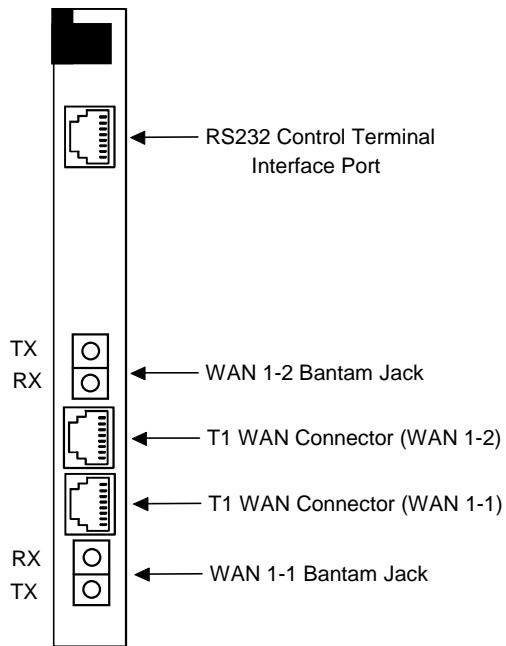

Figure 5-4. INF T1*2 Interface Card Ports
The INF T1*2 interface card uses RJ48 jacks to terminate two (2) T1's and Bantam connectors to terminate two T1 WAN links and an RS232 control terminal interface port or balanced 120 ohm E1. The computer port, modem port and node port are not available on this interface card. The interface card connectors are arranged as shown in Figure 5-4.